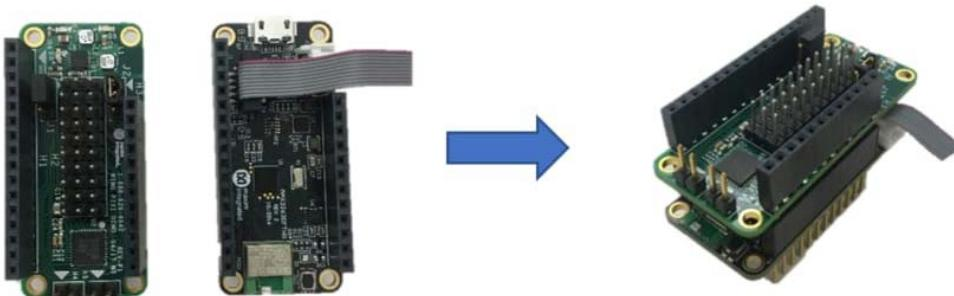

Figure 2. Displays stacking the MAX11301WING on top of the MAX32630FTHR.
3. Stack the MAX11301WING on top of the MAX32630FTHR. The MAX11301WING form factor has 16 pins on one side of the board and 12 pins on the other. Make sure the 16-pin header (H1) and 12-pin header (H3) align on each board when stacking. Figure 2 shows the MAX11301WING stacking on the MAX32630FTHR.